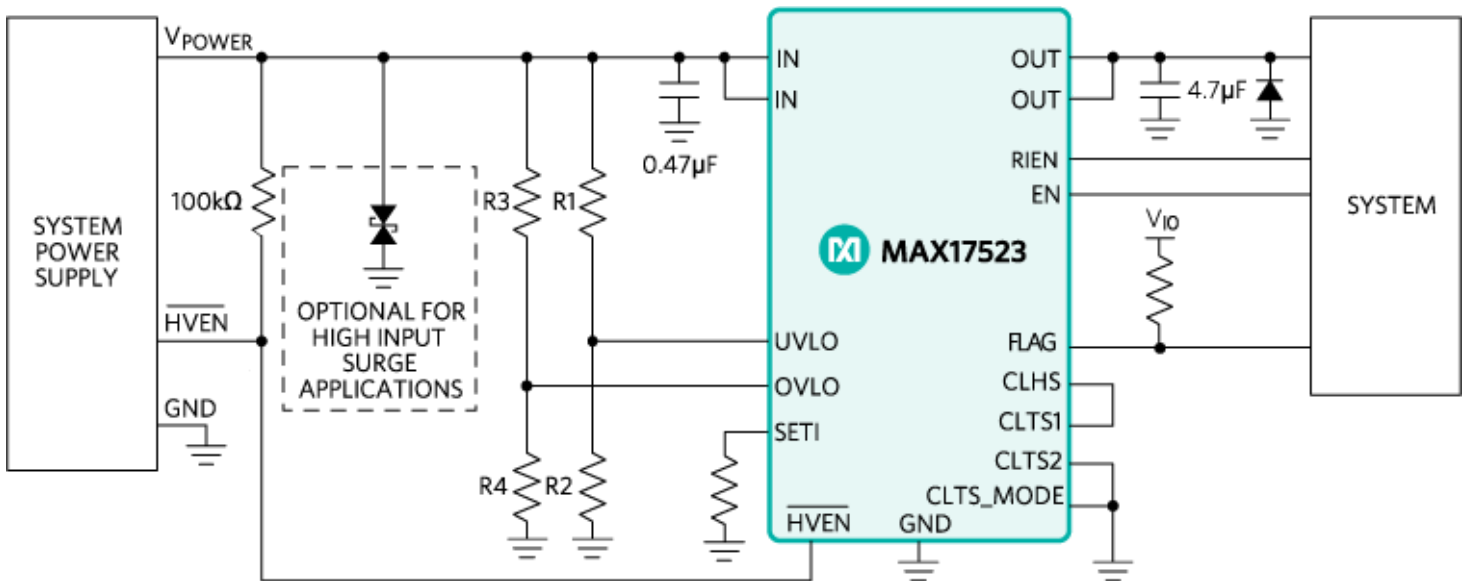

Figure 6. MAX17523 typical application schematic.
**Figure 6** illustrates a modern protection IC from Maxim's Olympus family of devices, the 36V/1A MAX17523. This highly integrated IC brings together all needed protections in a single, tiny 16-pin TQFN (3mm x 3mm) package. Simple to use while rugged enough to support 12V transportation electronics, the MAX17523 includes features such as the following: